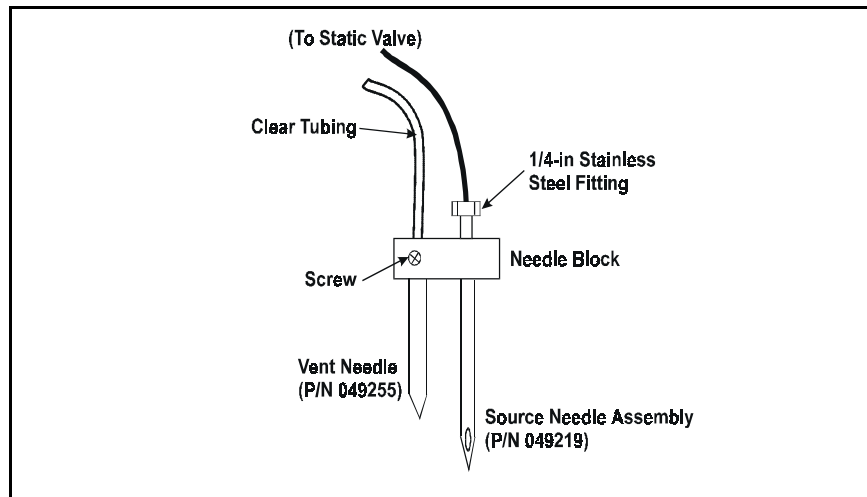

Figure 5-4. Vent and Source Needles
5. The vent needle is the slightly shorter needle with clear tubing attached (see Figure 5-4). Pull the clear tubing from the needle.
6. Use a Phillips screwdriver to loosen the screw on the needle block (see Figure 5-4). Pull down to remove the needle.
5. From the right side of the ASE 200, disconnect the 1/4-inch stainless steel fitting from the needle block (see Figure 5-4).